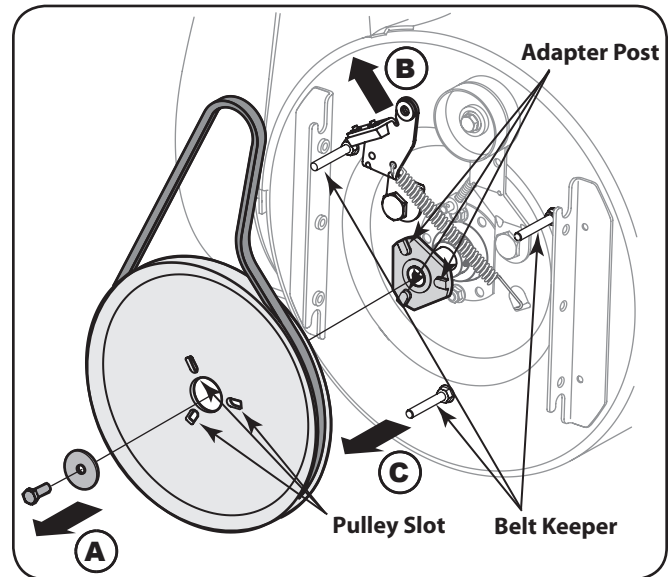

Figure 7-7
6. Block the impeller with a piece of wood to prevent from spinning and use a 1/2" wrench to remove the hex screw and flat washer from the center of the auger input shaft and auger pulley adapter. Refer to Figure 7-7.
7. Lift the brake bracket assembly out of the pulley groove and slide the pulley assembly off the posts of the auger pulley adapter to remove the old belt. Refer to Figure 7-7.
9. Turn the pulley as necessary to align its three slots approximately with the posts of the pulley adapter, then move the brake bracket assembly away from the input shaft. While aligning the pulley slots and adapter posts, push the auger pulley fully onto the adapter. Refer to Figure 7-7.
NOTE: If the pulley adapter was removed with the pulley, align the splines of the pulley adapter and auger input shaft, and push the pulley and adapter onto the input shaft. Refer to Figure 7-7.